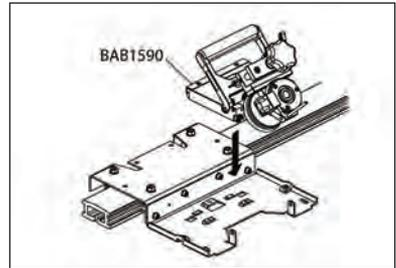

Figure 7
2. Place the BAB1590 on the carriage. (See Figure 7)